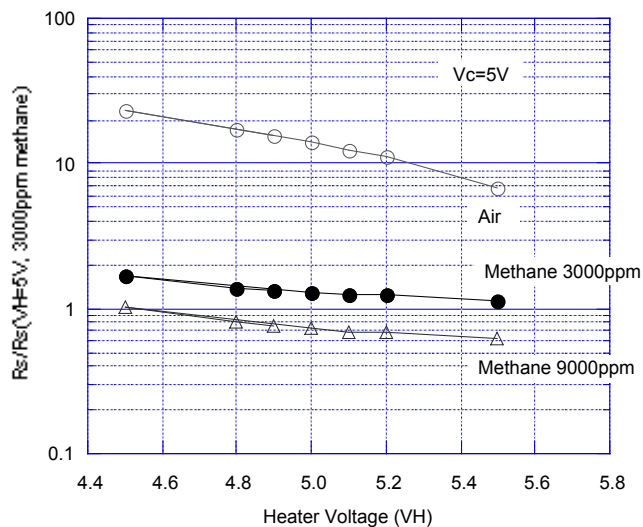

Fig. 8 - Heater voltage dependency (Vc=5.0)
Figure 8 shows the change in the sensor resistance ratio according to variations in heater voltage (VH).